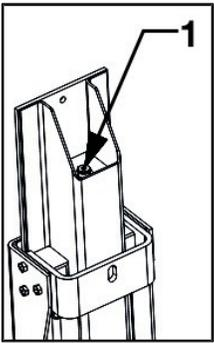

Fig. 19: Cylinder vent screw
4. Position a ladder behind the lift unit so you can reach the top of the cylinder. Use a 6 mm hex key to slightly loosen the vent screw (do not fully remove the vent screw) in the top on the cylinder (Fig. 19) while surrounding the port with a clean rag. You will hear the air escaping.